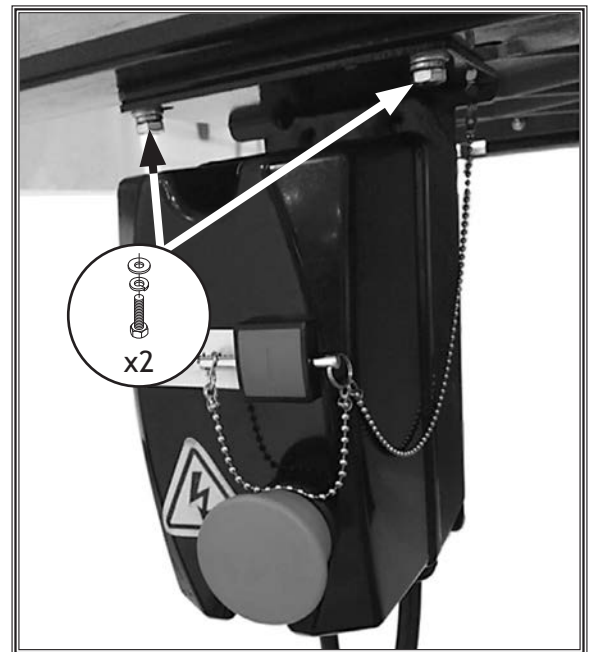

Figure 28. Magnetic switch installed.
1. Install the magnetic switch onto the bottom left hand side of the front rail using two M6-1 x 12 hex bolts, 6mm lock washers, and 6mm flat washers, as shown in **Figure 28**.